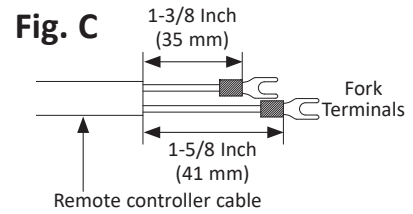

Fig. D-1
4. Tighten the two **Fork terminals** beneath the two **Remote controller terminal** screws on the back of the main body. (**Fig. D-1**)